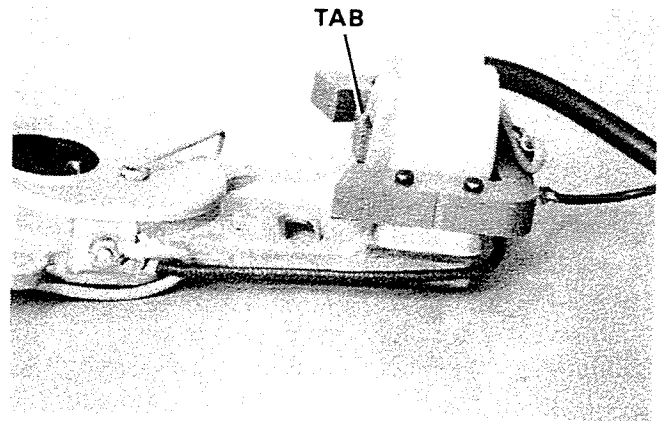

Figure 23. Installing Coil.
- A. Slide coil onto laminations with larger end (tab) of spring on inside facing up. Figure 23.